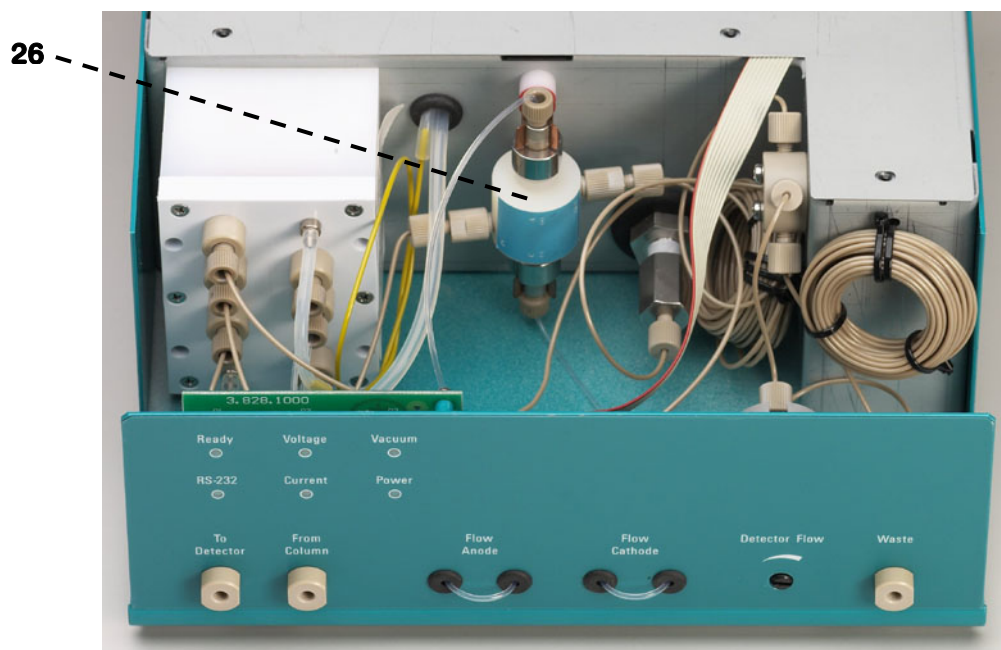

Figure 9: Opened IC Dual Suppressor
- Loosen the pressure screws on all four of the capillaries connected to **suppressor cell 26**, see Figure 9.